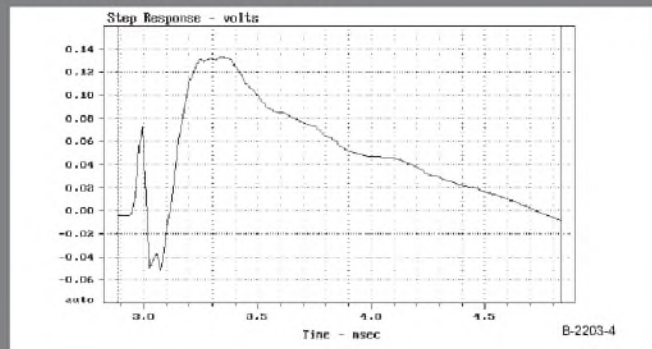
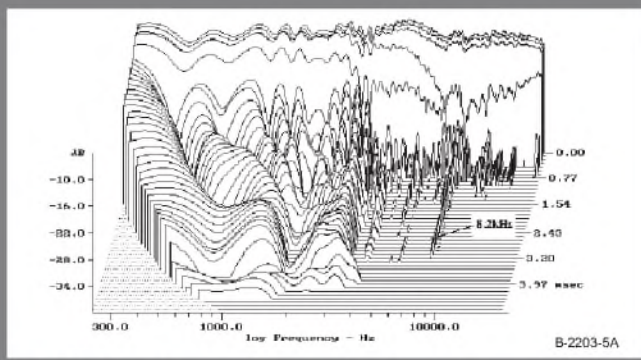
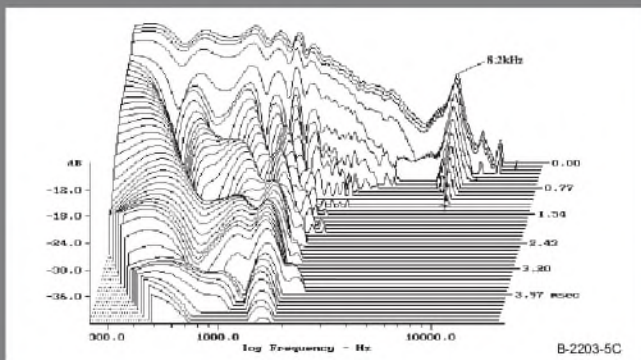

FIGURE 4: Froy (Mk3) step response.
FIGURE 5A: Froy (Mk3) cumulative spectral decay.
FIGURE 5C: Froy (Mk3) woofer pair CSD.
The Froy (Mk3) step response is plotted in *Fig. 4*, which shows two separate arrivals of acoustic energy. The initial sharper positive spike is the tweeter arrival. It is followed by the woofer arrival, beginning about 0.2ms later. Although not shown, a detailed examination of the excess group delay plot1 shows the woofer pair to be 200μs (0.2ms) behind the tweeter. Although all drivers are connected with positive polarity, the system is not time-coherent.
The Froy (Mk3) cumulative spectral decay (CSD) response is presented in *Fig. 5A*. This waterfall plot shows the frequency content of the system response following a sharp impulsive input at time zero. On the CSD plot, frequency increases from left to right and time moves forward from the rear. Each slice represents a 0.1ms increment of time. The total vertical scale covers a 30dB dynamic range.
The first time slice in *Fig. 5A* (0.00ms) represents the system frequency response. The major decay response above 3kHz falls 30dB in 0.8ms. However, there is a fair amount of "hash" beyond this point. In particular, there is a ridge at 8.2kHz extending out beyond 3ms. This result is at first surprising since the EXCEL Millennium tweeter does not display this poor decay response in the THOR transmission line2.
*Figure 5B* gives the source of this hash. This plot of woofer pair response without smoothing shows a strong response peak at 8.2kHz followed by successively smaller peaks at 10.8, 13, 15.7, and 18.5kHz. These are the higher frequency breakup modes of the EXCEL woofer cones. The major peak is only 13dB below the full system response. *Figure 5C*, a CSD of the woofer pair, shows these modes clearly.
*Figure 5A*—Joe mentioned the ridge at 8.2kHz. This explains the sibilance on Jacintha’s HF-rich voice. But I didn’t notice this on other material. Rather, I think the pronounced long-decay ridge around 3kHz was what bothered me the most, more so than the mild 4.5kHz peak on the first-arrival frequency response (0ms top of waterfall, all *Fig. 2*). The former 3kHz “hashiness” of decay would be the most likely contributor, I think, for the upper-mid roughness or congestion I heard. Such a decay pattern would also likely obscure fine details.
*Figure 5C*—Surprising here is the absence of the 3kHz ridge from the combined waterfall of *Fig. 5A*. If the long 3kHz decay isn’t from the woofer, and most likely not from the excellent Millennium tweeter, where does it come from?
My guess is (by process of elimination) that the crossover is causing some ringing (undamped resonance). While not evident in the overall frequency response, *Fig. 4* (step response) might provide a clue. Notice from 3.4ms on the time axis to 4.2ms a small but nearly periodic wiggle, with cycle peaks around 3.4, 3.75, and 4.1ms. With a cycle period around 0.35ms, my alleged ringing frequency would be about 2.9kHz, close enough to the approximate 3kHz prominent ridge on *Fig. 5A*.